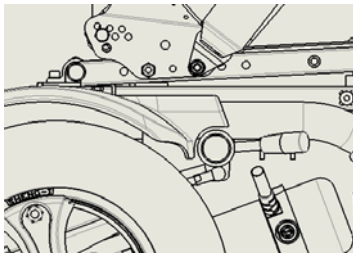

Figure 5-72
5.3.5.2 There are two evenly spaced holes for incremental adjustments which is in increments of 25.4 mm(1"). The total range of adjustment is 50 mm. (Figure 5-72&5-73).